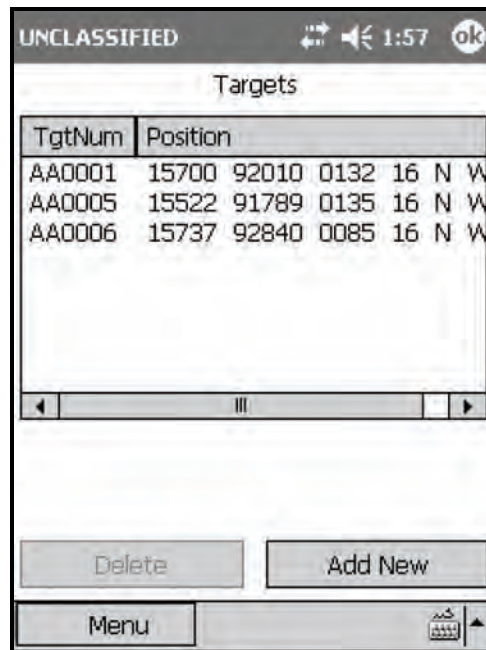

Figure 18-20. Targets screen.
- (26) Select Menu.
- (27) Select Points.
- (28) Select Targets.
- (29) The Targets screen displays (Figure 18-20).